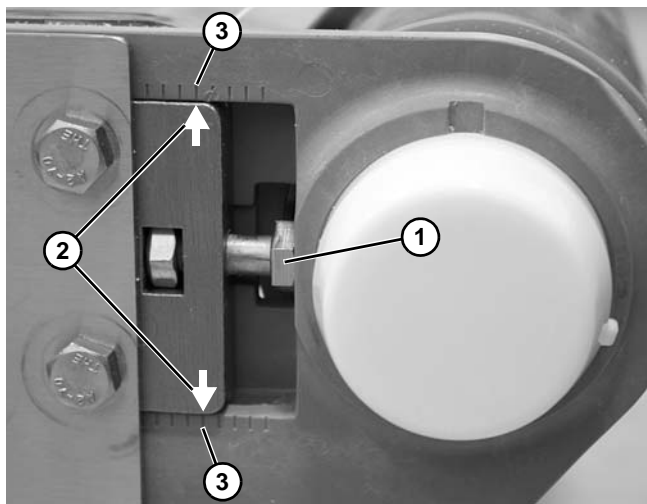

Figure 63
1. Tighten bolts (Figure 63, item 1) on each side to take up tension. Align the same arrows (Figure 63, item 2) and marks (Figure 63, item 3) on each side of the conveyor to keep the tail straight.